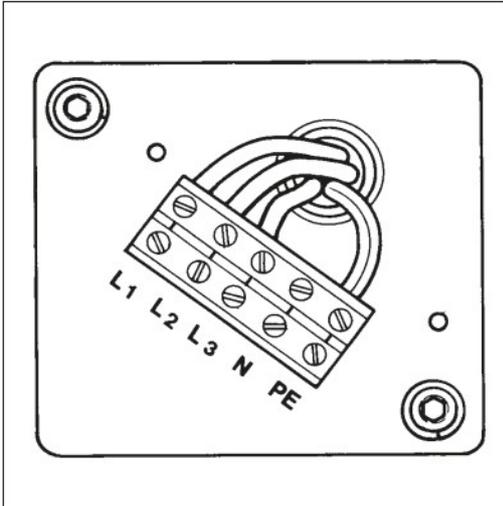

Fig 3
# Electrical connection (fig 3)
- the open the electrical components box at the back of the machine (fig 3);